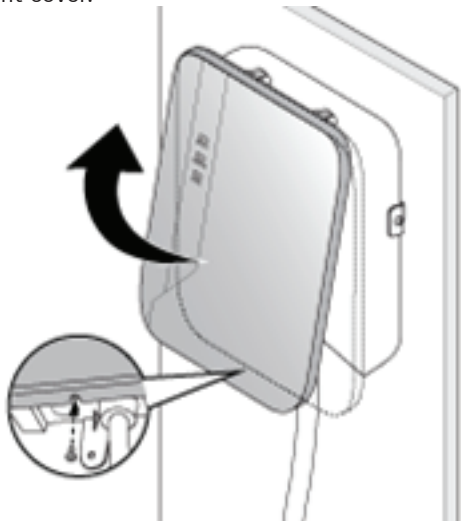

Figure 4-4.
6. See Figure 4-4. Remove the screw located at the bottom of the front cover.